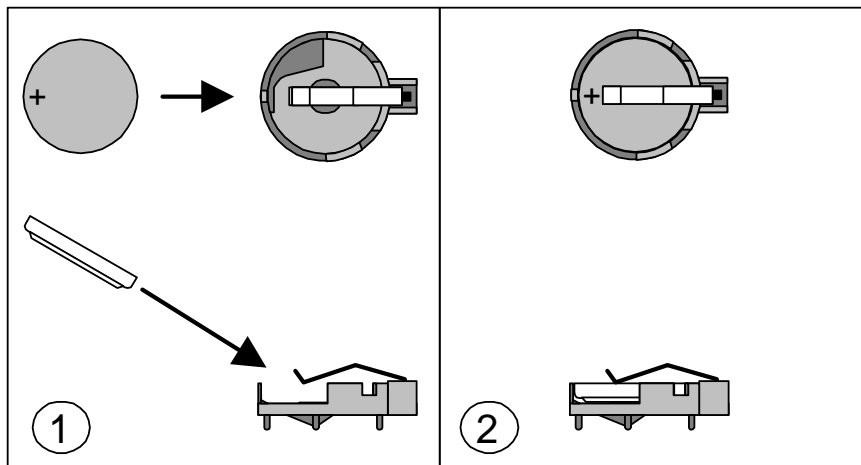

Figure 20: Installing a new Battery
6. Gently pry the battery free from its socket, taking care to note the "+" and "-" orientation of the battery (Figure 20).